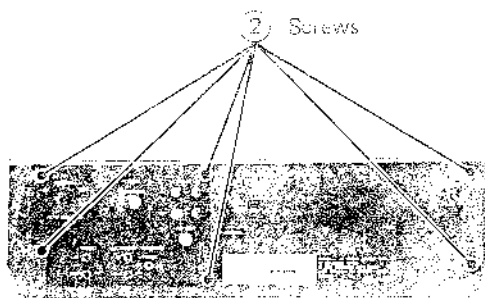

Fig. 3-3
3. Take out 6 screws (2) shown in Fig. 3-3 and remove the rear cover.